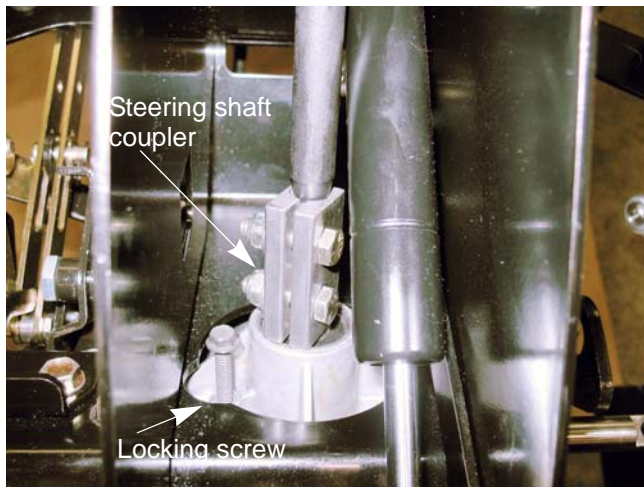

Figure 6.9
- 5 Remove the bottom bolt in the steering shaft coupler. See Figure 6.9.